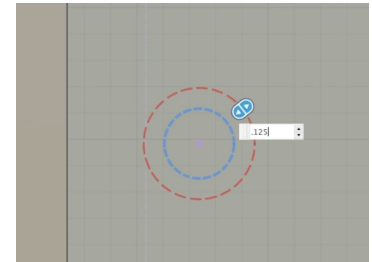

Figure 1.1
- Once the holes are projected, apply an Offset of 0.125 inches around each of the 4 holes to define the mounting pad area (see Figure 1.1).